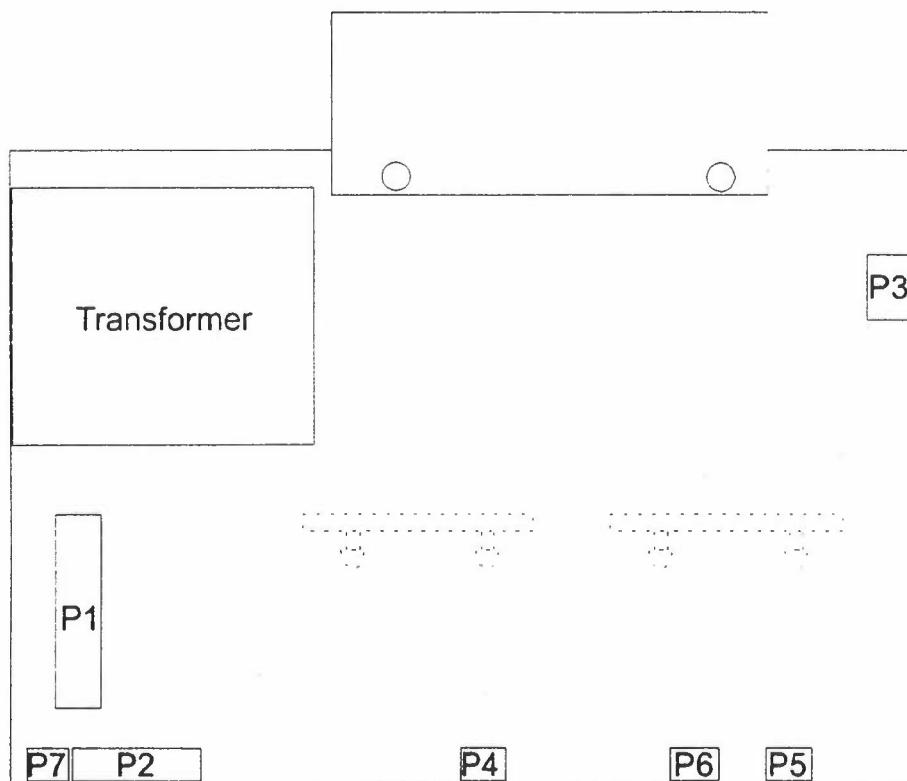

Fig. 6.1.2-1. The SMPC module
3. Remove the four umbraco screws on the cover plate covering the SMPC module at the centre of the MPS unit. The module is now accessible, see Fig. 6.1.2-1 below.